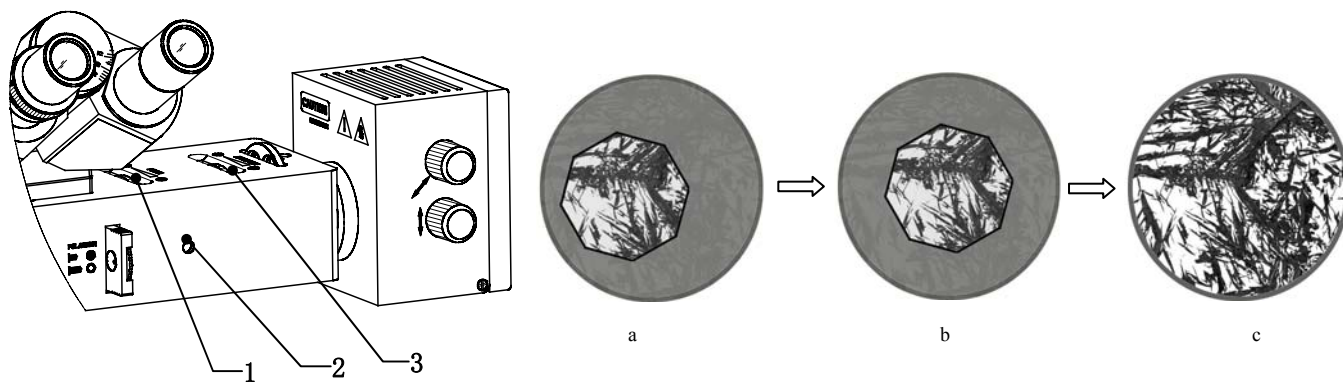

Fig.10
- (1) Turn the 10X plan objective into optical path.
- (2) Open the aperture diaphragm 3, and close the field diaphragm 1, a light spot will be seen in the field of view, as shown in Fig.10-a.
- (3) If the light spot deviates from the center of the field of view, as shown in Fig.10-a, take out the plastic dustproof caps 2 and adjust the centering adjustment screw with two inner hexangular wrenchs to make the field diaphragm center
superposition with the field of view center, as shown Fig.10-b, then cover the adjusting hole again.
(4) Open the field diaphragm, so that the observed specimen image fills field, as shown in Fig.10-c.